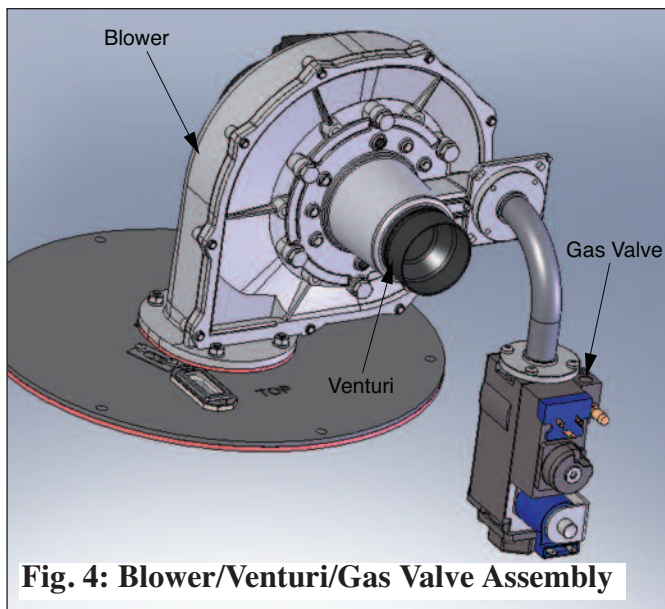

Fig. 4: Blower/Venturi/Gas Valve Assembly
1. Remove 4 blower mounting nuts from the burner plate using a 10 mm wrench and remove the blower/gas valve/venturi. Gas valve and venturi assembly can remain connected to the blower housing. Discard old blower gasket. (Fig. 4).